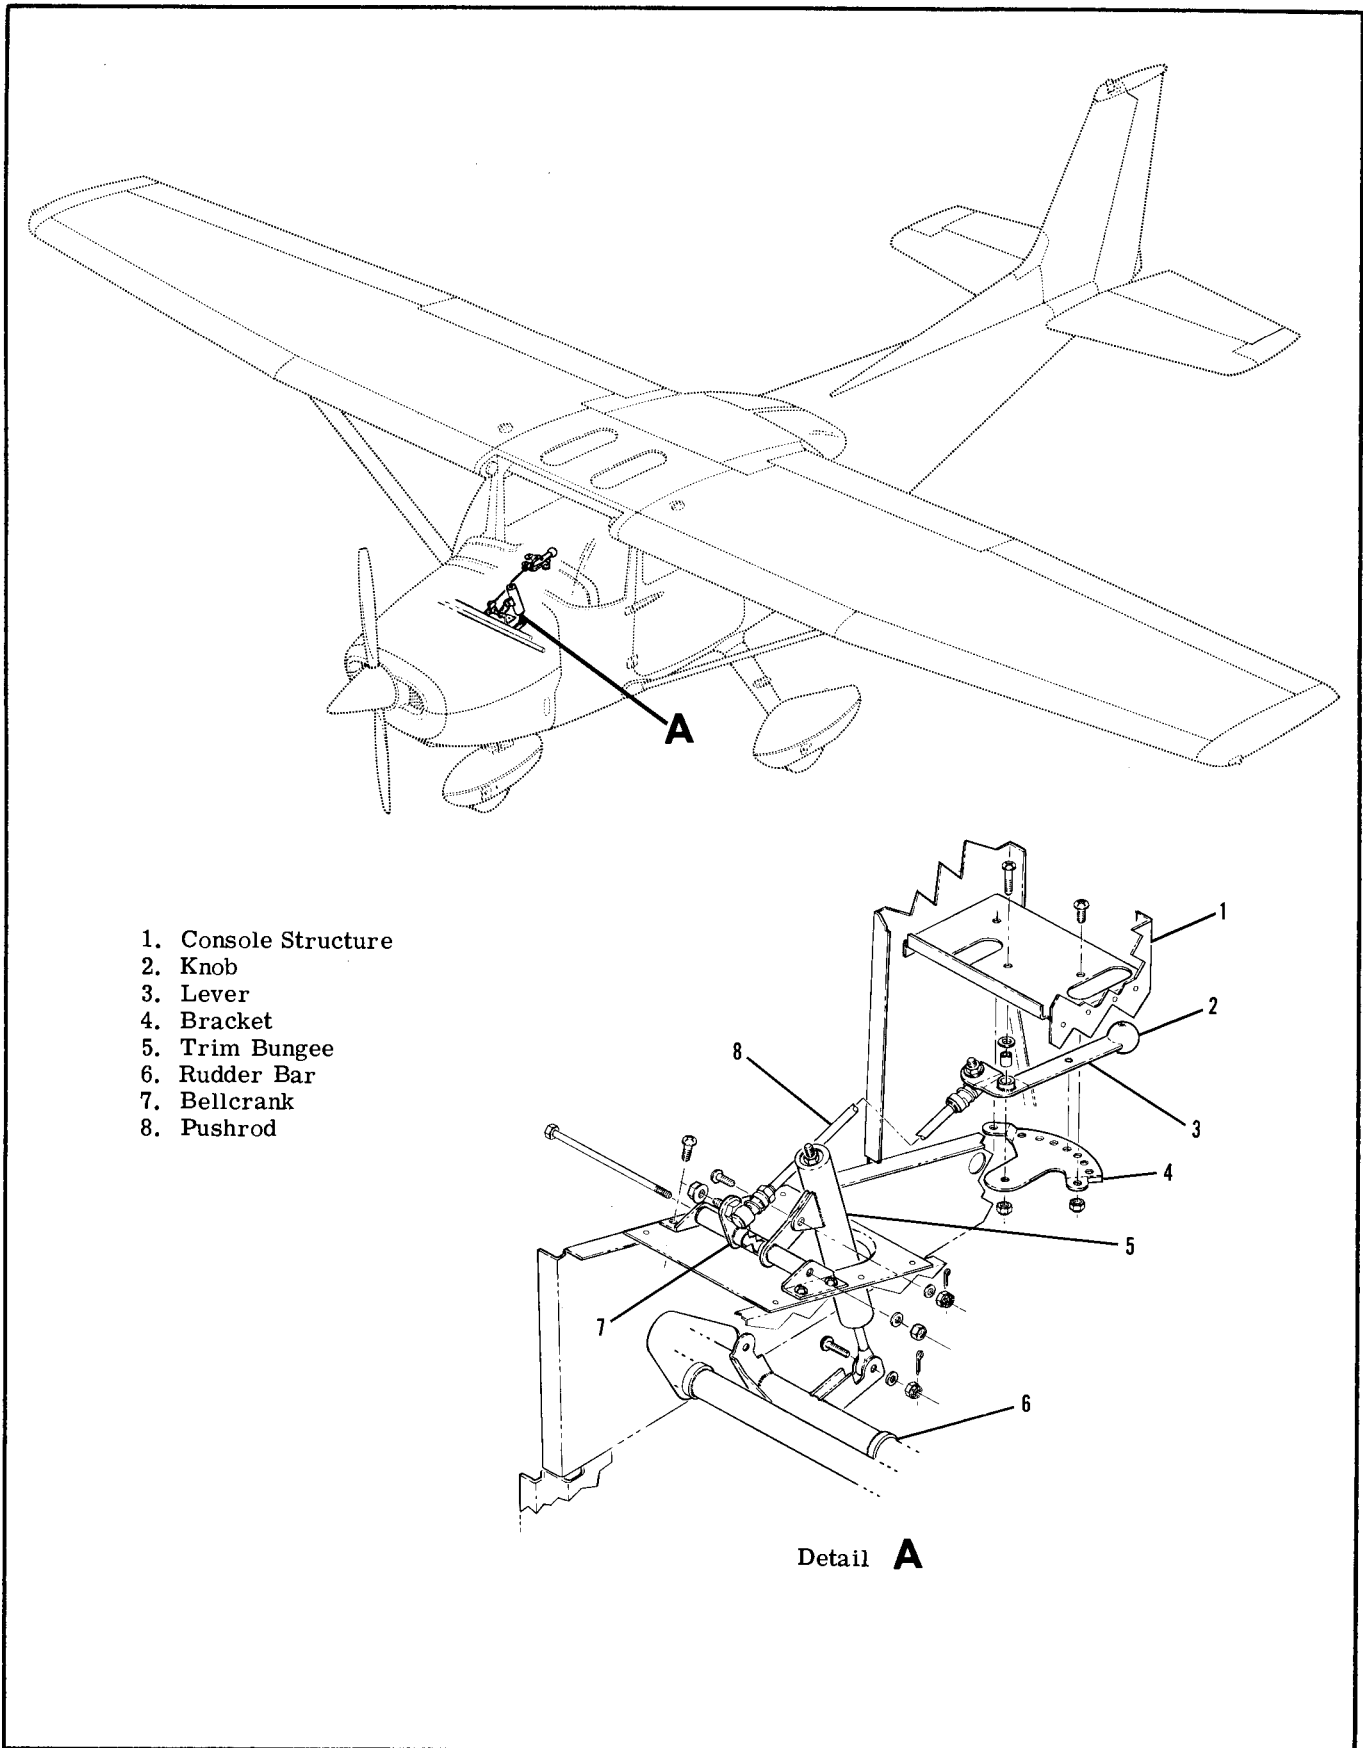

Figure 10-5. Rudder Trim Control System
10-12. RUDDER TRIM CONTROL SYSTEM. (Refer to figure 10-5.)
10-14. RIGGING. (Refer to figure 10-5.)
d. Install bungee (5) between rudder bar (6), and bellcrank (7) as shown in fig 10-5, detail A.
e. Make sure lever assembly (3) is in neutral position or center hole of bracket (4).
f. Adjust ball ends of push rod (8) so that ball end studs align with holes in bellcrank (7) and lever assembly (3) and install push rod.